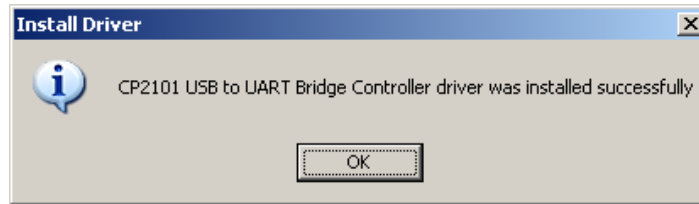

Figure 10: CP2101 USB Driver Installation Complete
4. Once the USB Driver has completed, the dialog in Figure 10 will be displayed. Dismiss the dialog by pressing the **OK** button.